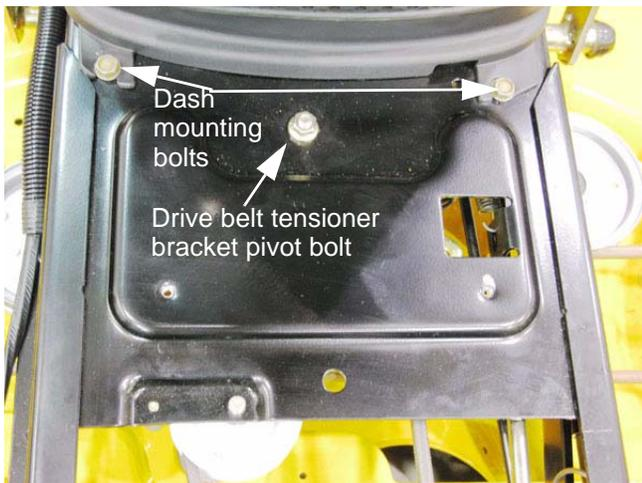

Figure 4.13
- The bolts that hold the base of the dash panel to the frame. See Figure 4.13.